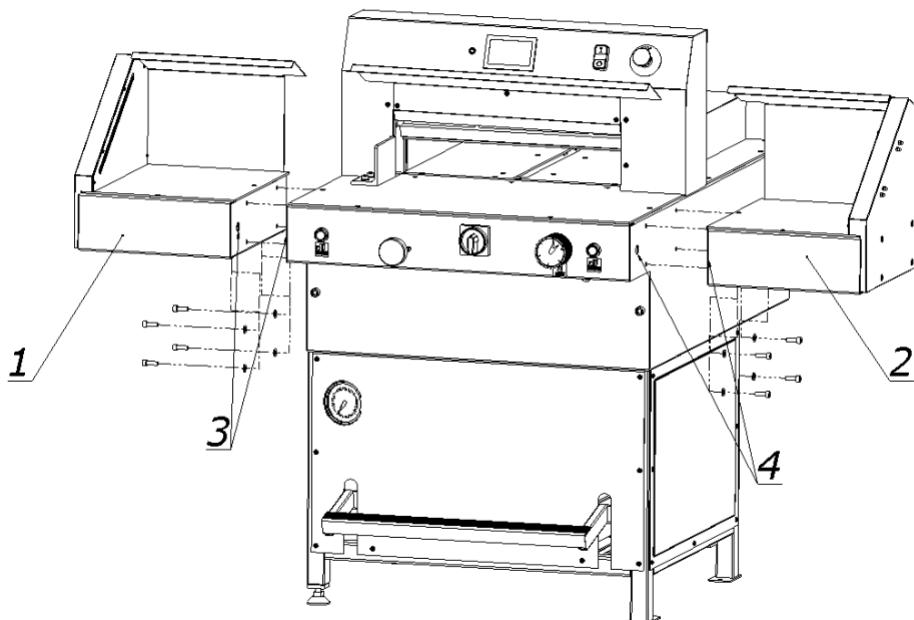

Figure 6b Tightening of the side tables
- with disassembled side tables, assembly of tables according to Figure 6b
- with unfolded base and disassembled side tables, (non-standard equipment), assembly according to figures 6b and 6c